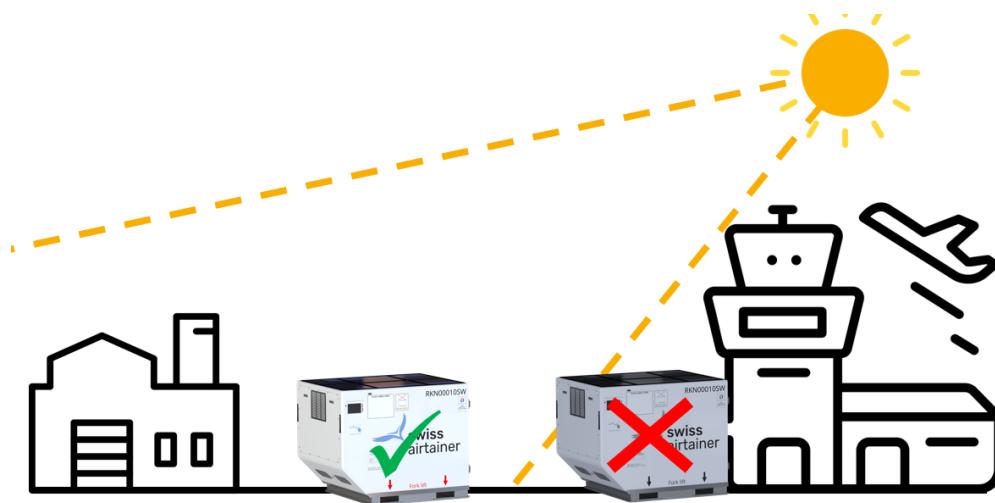

Figure 5 - Positioning of the container for proper sunlight exposure.
1. Place the container outside (§5.3.1) during the day and ensure maximum direct sunlight exposure (Figure 5);